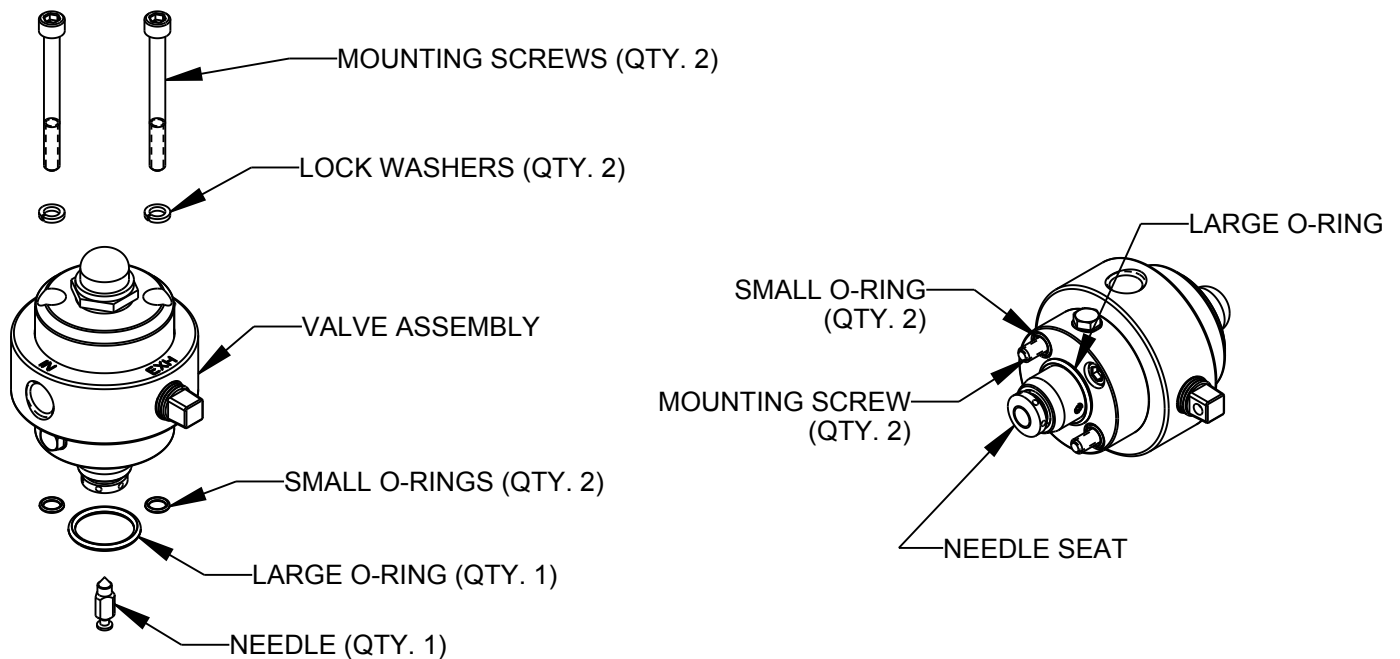

FIGURE 2
2. Slide the large o-ring over the needle seat portion of the valve as shown in figure 2.